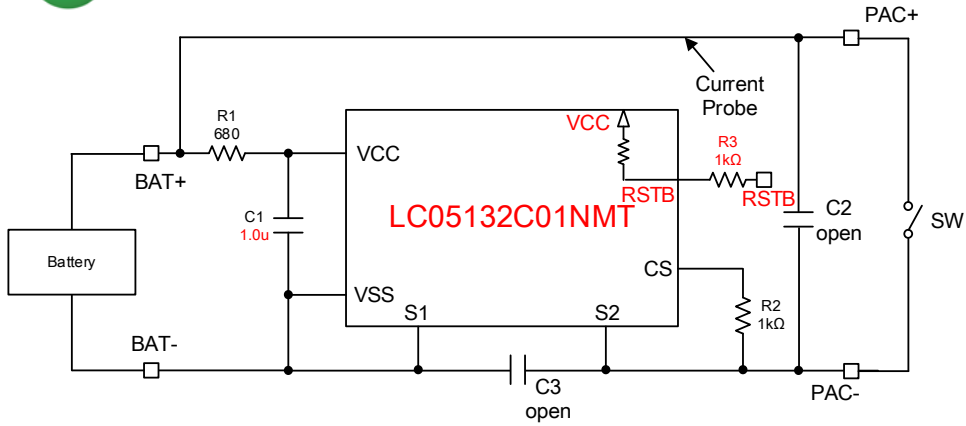

Figure3. LC05132C01NMTGEVB Recommended Test Set Up for Discharge Current2(short current)detection
1. Connect **LC05132C01NMTGEVB** like upper Figure3.